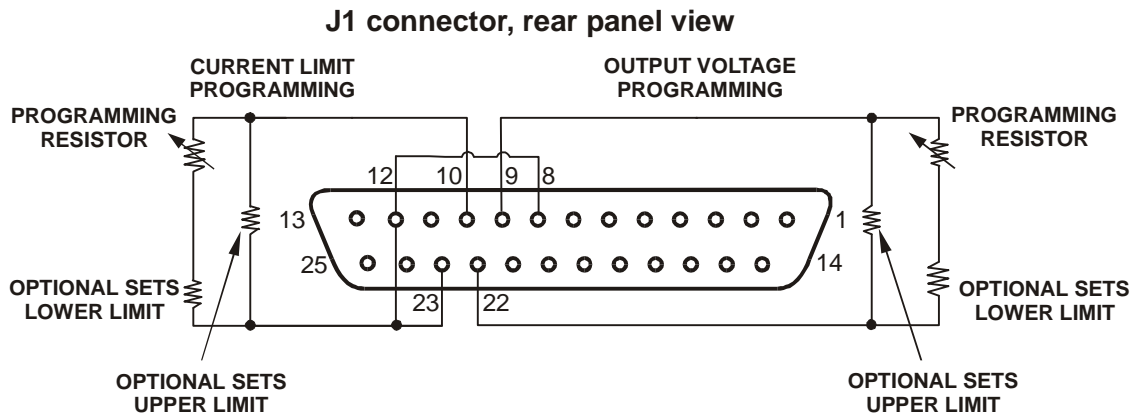

Fig. 6-2: Remote resistive programming
6. Connect the programming resistors to the mating plug of J1 as shown in Fig.6-2.